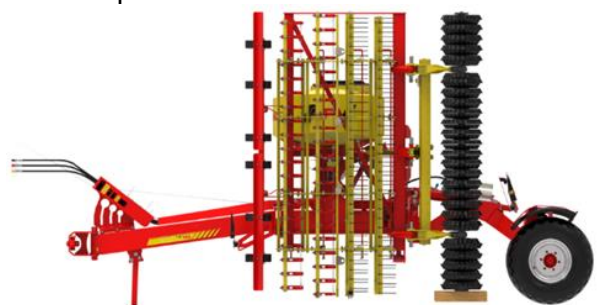

Figure 31
- The implement must be folded and the chassis must be lowered (see Figure 31).
- Set down the implement longitudinally on the low-loader (see Figure 31).